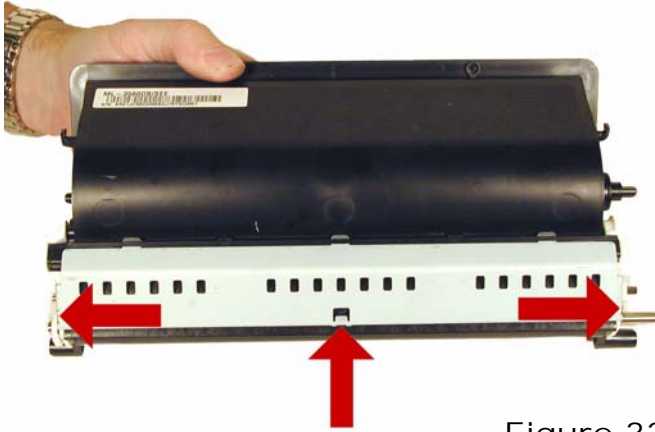

Figure 32
30) Remove the bottom metal plate. Carefully pry it off the locking tabs located one on each side, and one in the middle of the hopper. See **Figures 32, 33 & 34**